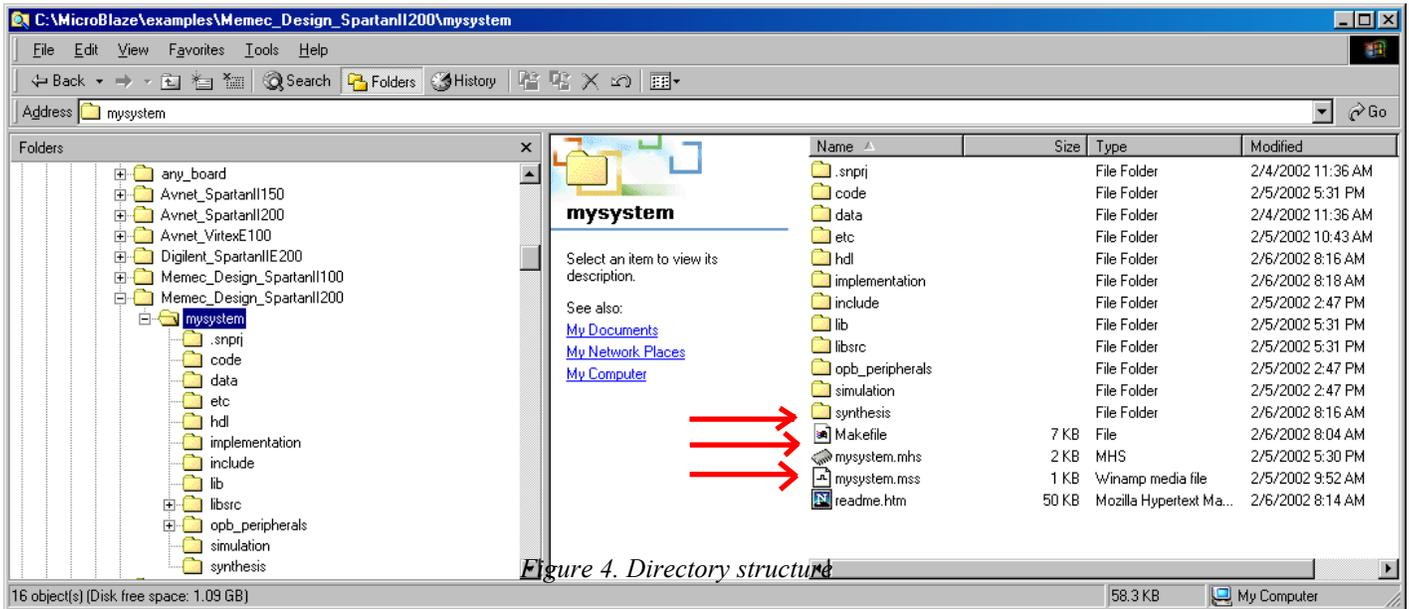

Figure 4. Directory structure
- 1) Locate the mysystem.mss , mysystem.mss and makefile files in project directory using explorer. This directory is C:\microblaze\examples\Avnet_SpartanII200\mysystem shown in figure 4.